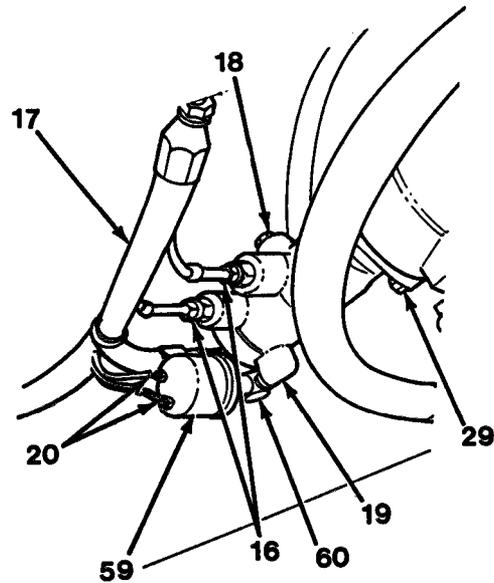

Figure 17-1
8. Connect hoses (18) and (17) and two brake lines (16) to master cylinder (19).
9. Install elbow (60) and brake light switch (59) to master cylinder (19, Figure 17-1).
10. Install two brake light wires (20) to brake light switch on master cylinder (19).